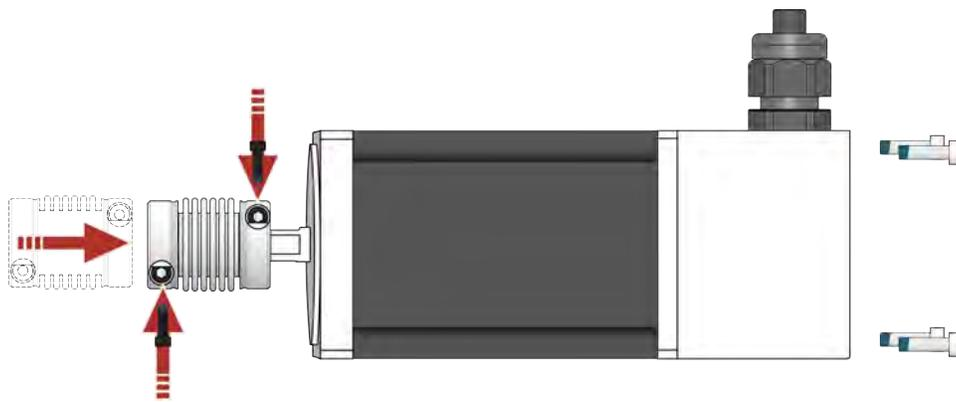

Figure 4-4: Attach the Coupling Adapter to the Motor Shaft
5. Attach the Shaft Coupling to the Motor shaft (refer to Figure 4-4). Refer to Table 4-1 for the correct hardware and torque requirements.